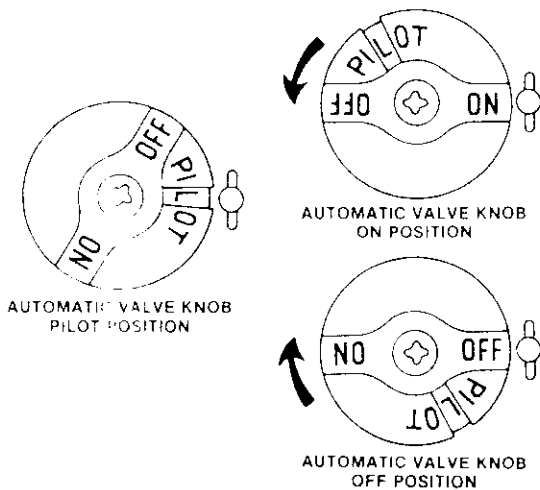

FIGURE 1
2. Turn the gas valve knob to the OFF position. See figure 1.
5. Turn the fryer gas valve to the ON position. See figure 1.
K. SHUTTING FRYER(S) OFF WHEN CLOSING STORE
2. Rotate the fryer gas valve knob(s) to the OFF position. See figure 1 .